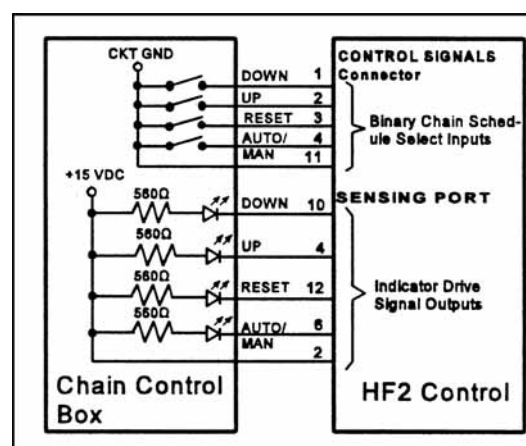

Figure 4-9. Remote Chain Control Box Input/Output Signals
- 2 When an external chain control box is connected to the Control Signals Connector in place of a PLC, chained weld schedules can be implemented semi-automatically with an external chain control box (see Figure 4-9).
Note: If (Manual) is selected on pin 4, the chain control box will override the Control chain schedule on/off function and weld schedules can be selected manually from the chain control box (see Figure 4-9).